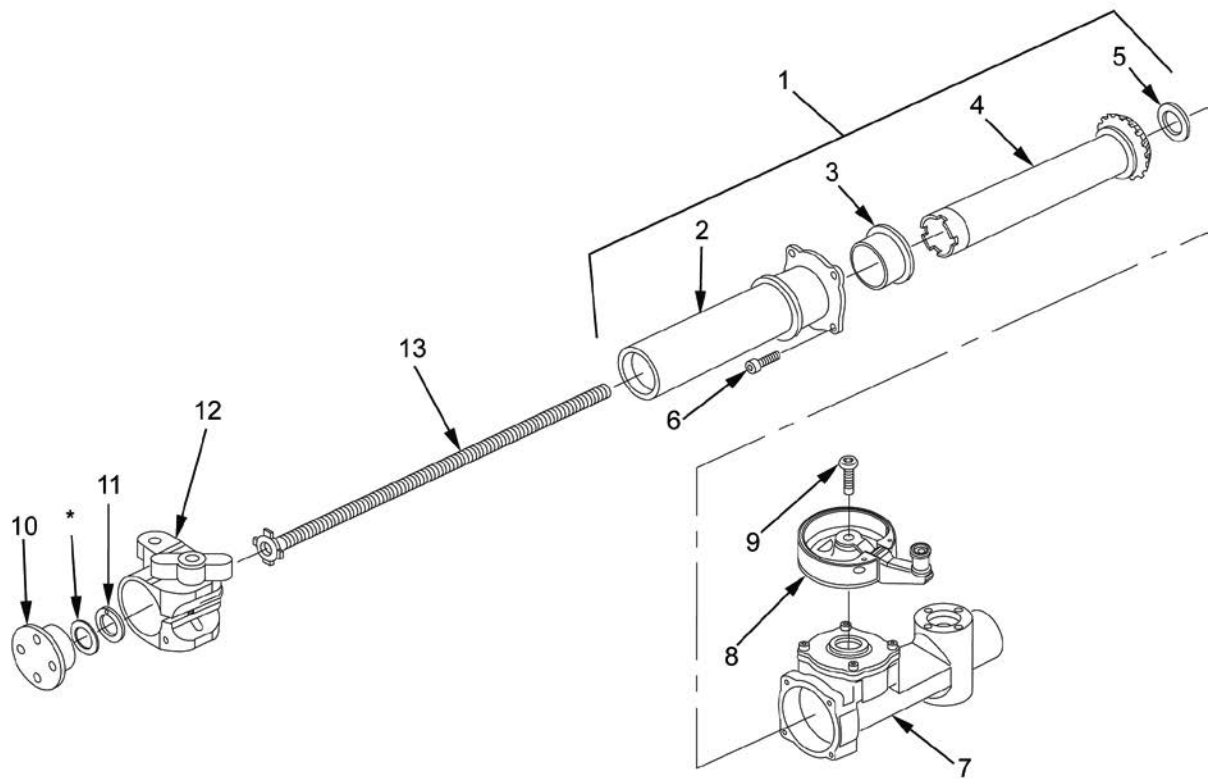

Figure 5. Assembly of Upper and Lower Mechanical Housings.
6. Using seal inserter (WP 0026, Item 8), install new sleeve bearing (Figure 5, Item 5) into spur gearshaft (Figure 5, Item 4).
7. Install new sleeve bearing (Figure 5, Item 3) into mechanical housing (Figure 5, Item 2).
8. Install spur gearshaft (Figure 5, Item 4) into mechanical housing (Figure 5, Item 2).
9. Apply sealing compound (WP 0032, Item 23) to threads of four socket head capscrews (Figure 5, Item 6).
10. Align holes in lower mechanical housing (Figure 5, Item 1) with holes in upper mechanical housing (Figure 5, Item 7). Install four socket head capscrews (Figure 5, Item 6). Torque capscrews to 4.5 - 6.0 ft•lb (10 N•m).
11. Install straight shaft (Figure 5, Item 13) into lower mechanical housing (Figure 5, Item 1). Insert tabs on end of straight shaft into cutouts on edge of spur gearshaft (Figure 5, Item 4).
Observe Figure 5 for proper orientation of block clamp.
12. Install block clamp (Figure 5, Item 12) on lower mechanical housing (Figure 5, Item 1). Ensure that clamp is installed with tab with threaded hole closest to elevating hand crank. Tighten wing nut to secure clamp in desired position.
13. Install new thrust washer bearing (Figure 5, Item 11) and machine thread plug (Figure 5, Item 10). Using face wrench socket, torque to 37.0 - 45.0 ft•lb (56 N•m).
14. Check for backlash. If backlash exceeds 1/8 of turn, install shim(s) between machine thread plug (Figure 5, Item 10) and thrust washer bearing (Figure 5, Item 11) until desired backlash is achieved.
15. Remove machine thread plug (Figure 5, Item 10) and apply sealing compound (WP 0032, Item 22) to threads of plug.
16. Install machine thread plug (Figure 5, Item 10) and torque to 37.0 - 45.0 ft•lb (56 N•m), using face wrench socket.
17. Remove socket head capscrew (Figure 5, Item 9) and hand crank (Figure 5, Item 8).